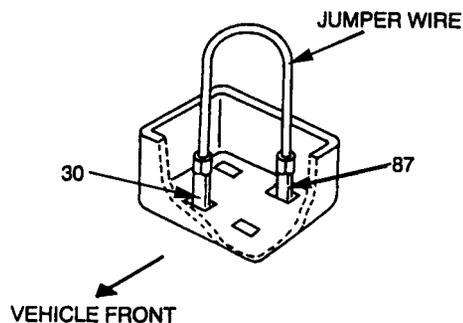

Figure MA014-7
1. To activate the pump, remove the pump relay and install a fused jumper wire between terminals 30 and 87 (Figure MA014-7).